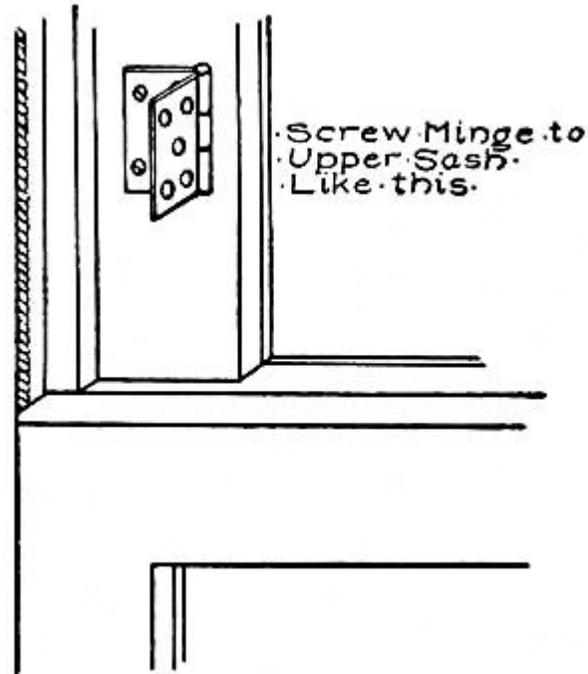

FIG. 44.—The Hinge Window Lock.
**The Hinge-lock**, in Fig. 44, is one of the most serviceable window-locks that can be had, for it can be so placed as to allow the window to be opened a few inches for ventilation, and at the same time prevent further opening.